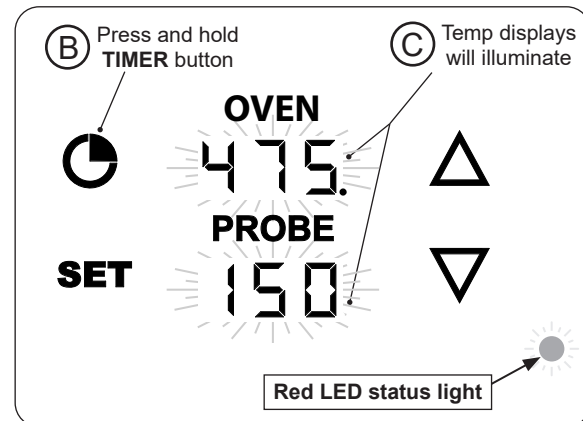
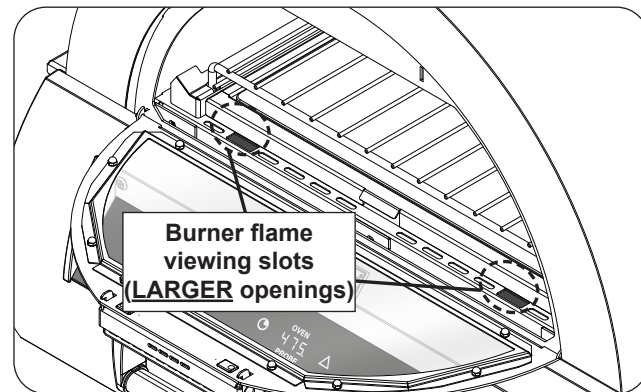

Fig. 4-2 Turn on thermostat
Fig. 4-3 Burner flame viewing slots
3. Press and hold the **TIMER** button (see Fig. 4-2, B) until the remainder of the displays illuminate (see Fig. 4-3, C). (The red LED status light indicates the unit is in the lighting process.)
**Important:** Visually inspect the burner flames via the two rectangular flame viewing slots (see Fig. 4-3).
**CAUTION:** If the burners do not light within ten (10) *seconds* of the red LED status light turning on, turn off the unit by pressing the thermometer power switch. **WAIT FIVE (5) MINUTES** before repeating step 3. If you smell gas, follow the instructions on the cover of this manual. If the burners still do not light after several attempts, turn the system **OFF** and contact a qualified professional service technician.
**For your convenience and safety, when the ignition system is lighting the unit AND when the burners are lit, the red LED status light will illuminate (see Fig. 4-2).**